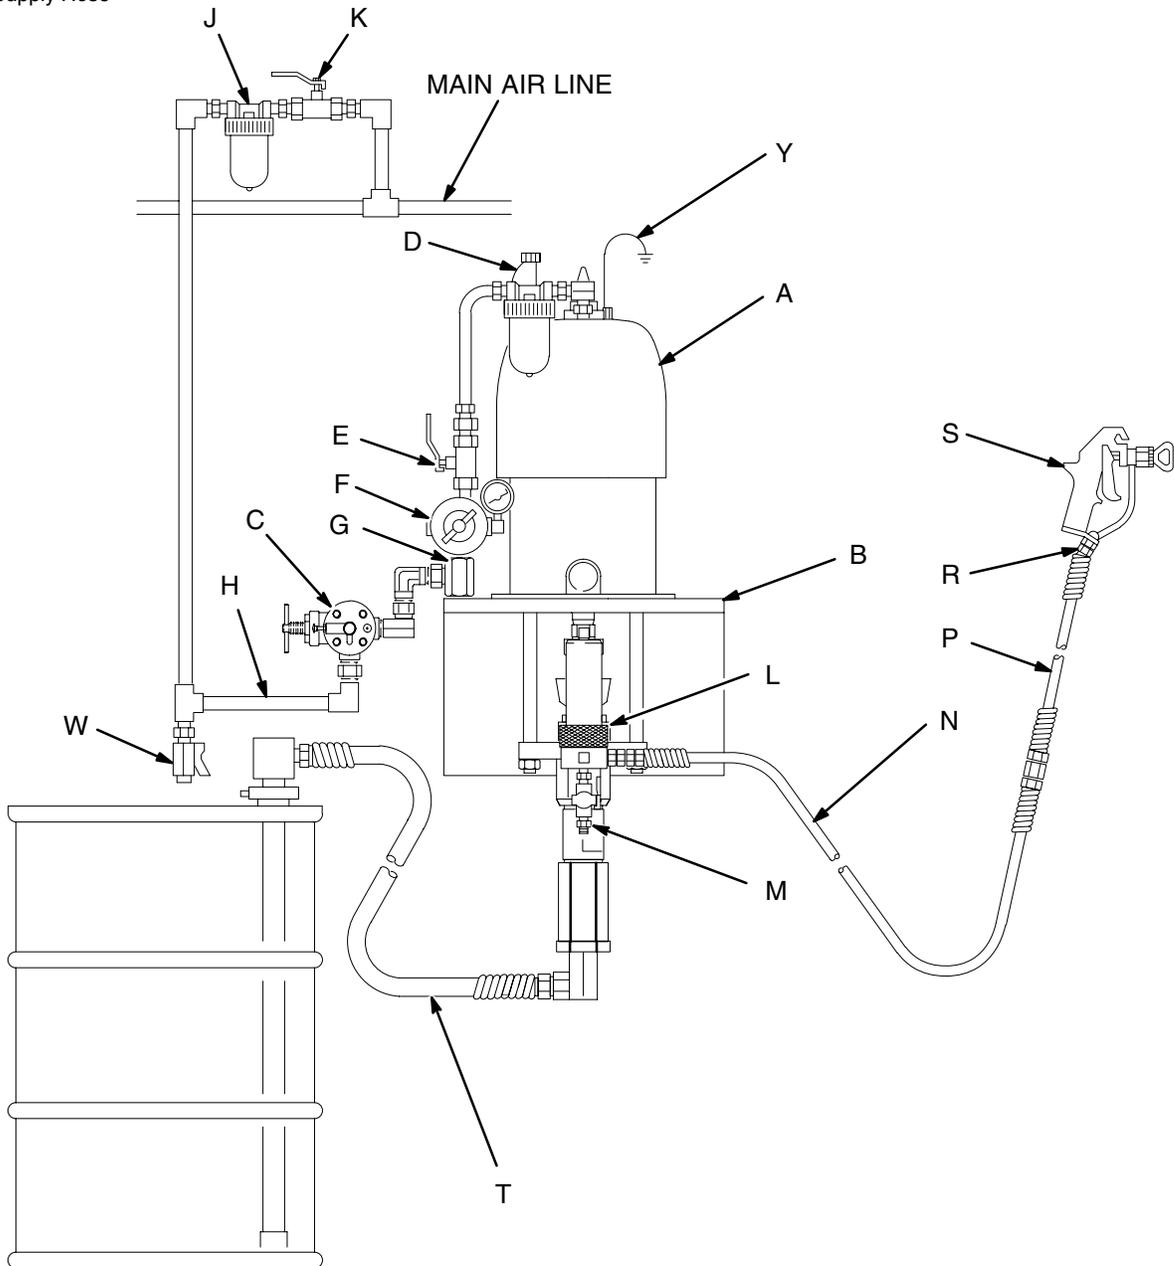

Fig. 3
Fig. 3 is only a guide for selecting and installing system components and accessories. Contact your Graco distributor for assistance in designing a system to suit your particular needs.
Mount the pump (A) to suit the type of installation planned. Fig. 3 illustrates a wall mount system. Pump dimensions and the mounting hole layout are shown on page 27.
Install the following accessories in the locations shown in Fig. 3, using adapters as necessary:
- **A fluid filter (L)** with a 60 mesh (250 micron) stainless steel element, to filter particles from the fluid as it leaves the pump.
- **A fluid drain valve (M)**, which is required in your system, helps relieve fluid pressure in the hose and gun (see the **WARNING** at left).
- **A gun (S)** dispenses the fluid. The gun shown in Fig. 3 is an airless spray gun for light to medium viscosity fluids.
- **A gun swivel (R)** allows freer gun movement.
- **A suction kit (T)** allows the pump to draw fluid from a supply container.
1. See Fig. 3. Connect the suction kit (T) to the pump's fluid inlet. Place the tube into the fluid supply.